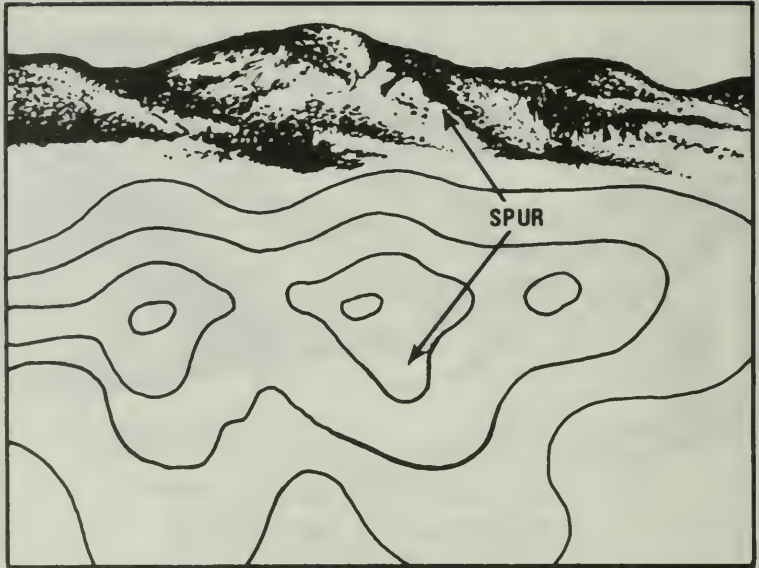

Figure 21. A Spur.
b. Spur (Figure 21). Usually a short, continuously sloping line of higher ground, normally jutting out from the side of a ridge. A spur is often formed by two parallel streams cutting draws down the side of a ridge.